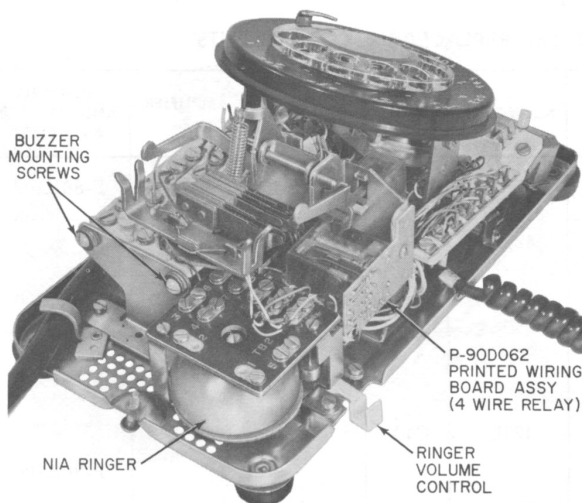

Fig. 6—568HR (MD) Telephone Set, Interior
2.09 The 568HR (MD) telephone set is equipped with an N1A ringer (Fig. 6) which may be used as a line ringer or a common audible signal. Ringer volume is controlled by means of a ringer arm projecting through the lower left side of the housing.